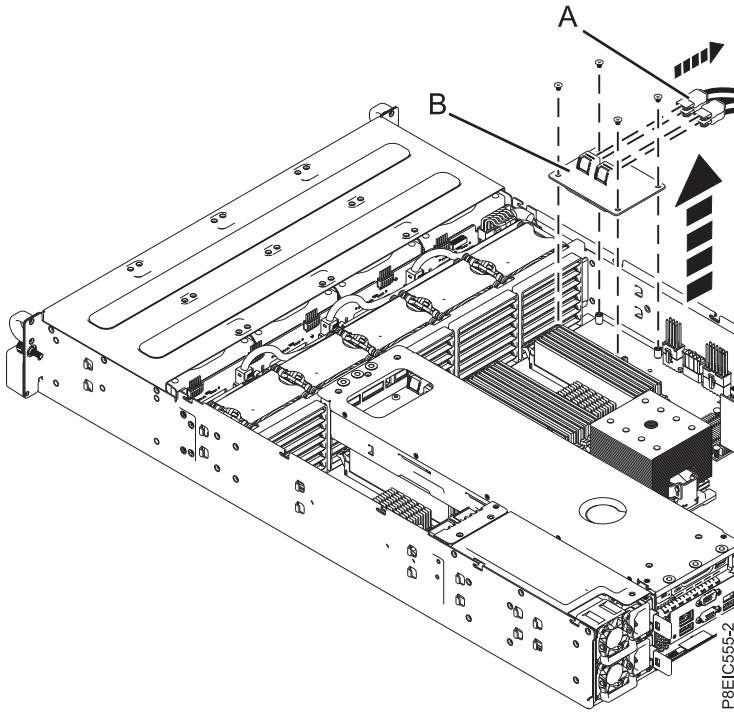

Figure 40. Removing the storage mezzanine card
4. Loosen and remove the four screws that attach the storage mezzanine card **(B)** to the system backplane, then remove the storage mezzanine card, as shown in Figure 40 on page 34.